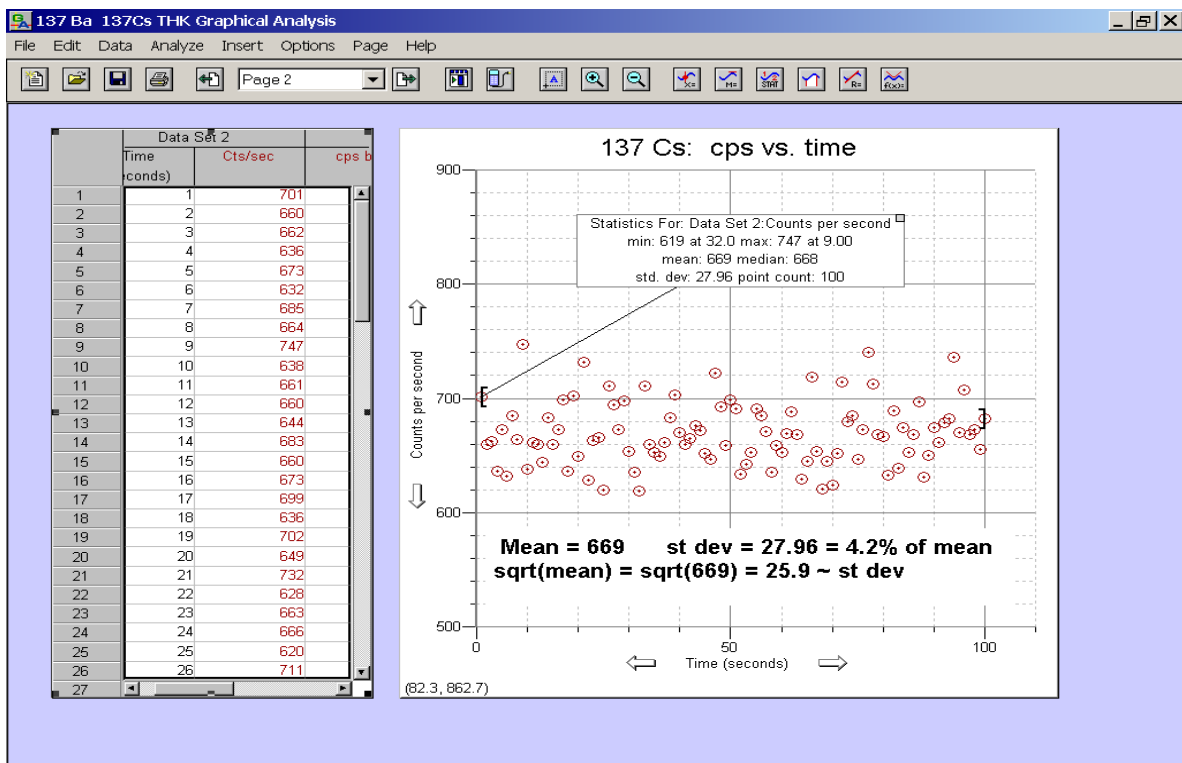

Figure 1 Statistical fluctuations in the random decay process
Thus, the size of the fluctuations will grow as the square root of the mean value (i.e., as the square root of the counting time per sample), but the percentage fluctuations will decrease as the inverse. Study Figures 1 and 2. Note the approximate equality among stdev, sqrt(mean) and width (C parameter) of the distribution histogram. The exact equality of sqrt and stdev is not to be expected, statistically, and the bin size chosen for the histogram can affect the fit.
5. Reduce the gaps in your histogram by increasing the bin width - double click on the histogram and increase the bin width to say, 10 or 15 and hit OK. Adjust the bin width until you get a histogram that looks like the one in Figure 1.